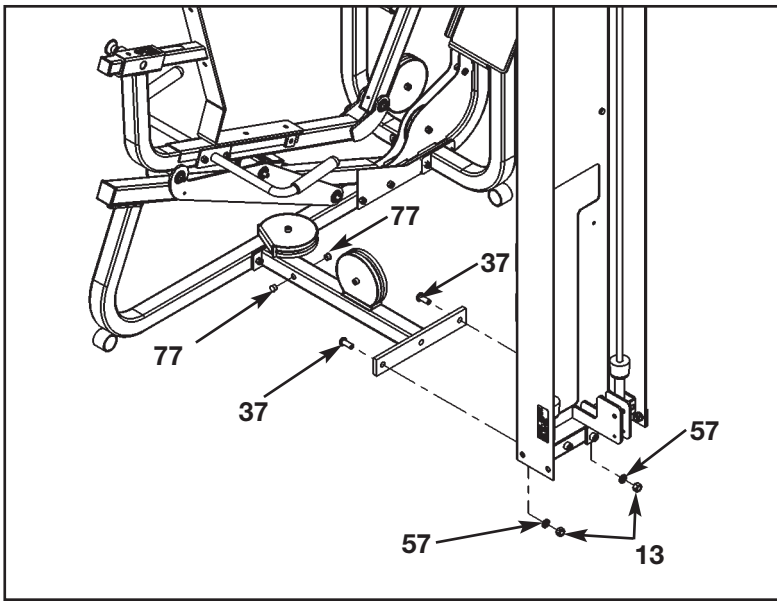
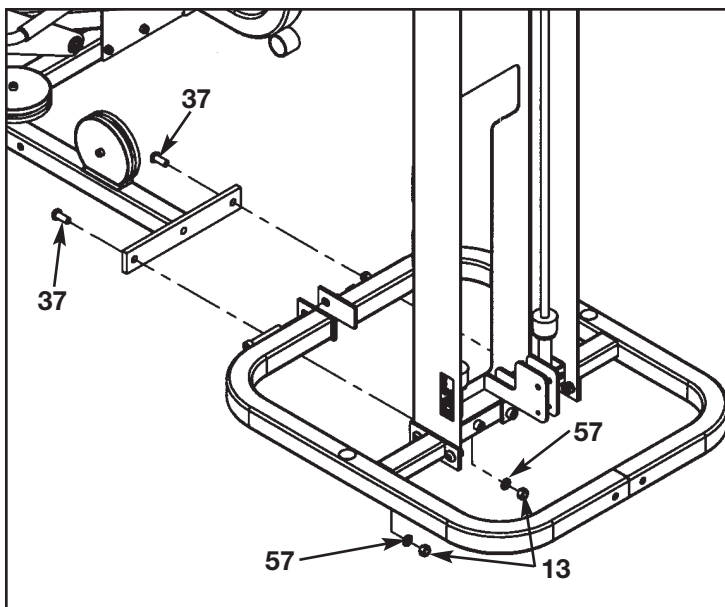

Figure 12
Figure 13A
- D. Install the Leg Press Assembly to the column. See Figure 12 for Modular/Tandem configurations and Figures 13A and 13B for Free Standing configuration.
- E. Install hole plugs (#77) to the Leg Press Assembly (Modular/Tandem configurations only). See Figure 12.